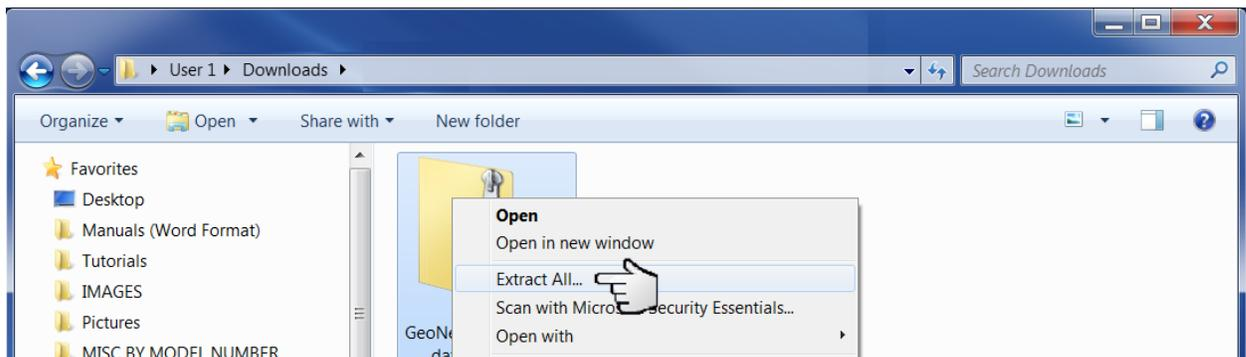

Figure 28 - Run “GeoNetUpdateUtility.exe”
- 9) Right click on the downloaded file and choose “Extract All...” (Figure 28).